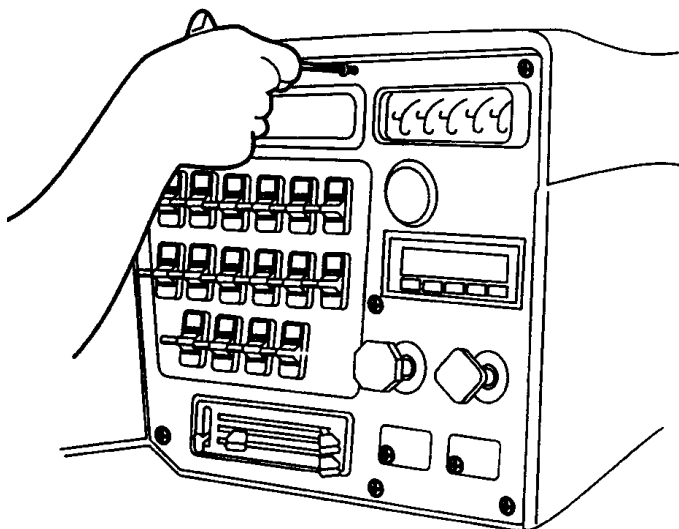

Figure 46 Dash Cover Panel Remove/Install (92/93/94/9900)
1. Remove screws from dash cover panel surrounding the air conditioning and heater control assembly (Figure 46); then remove the panel.
5. Install dash cover panel (Figure 46).
4. Remove screws from dash cover panel (Figure 46). Remove cover panel.
6. Install dash cover panel (Figure 46).